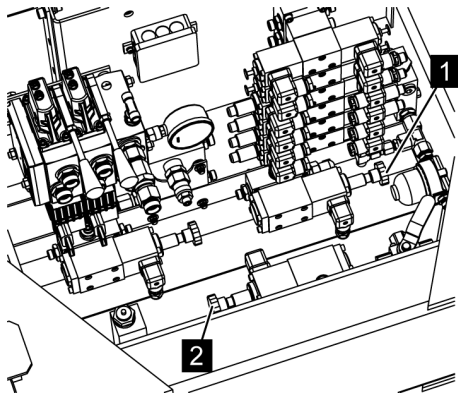

Fig. 119: Shuttle valve
7. → After service operation, unlock the shuttle valves (Fig. 119/1 and 2).
- Make sure that for normal operation, the shuttle valves (Fig. 119/1 and 2) are completely unlocked.